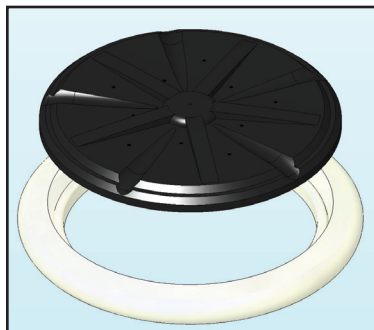

FIG 8-2
2. Press the OPEN/CLOSE switch to open pod door FIG 8-2.
4. Press the OPEN/CLOSE switch to close pod door FIG 8-2.
5. Check and clean the sprayhead. The sprayhead holes must always remain open. Clean all the holes in the plastic sprayhead to remove any mineral deposits. Wash and rinse in sink. Fig 8-2